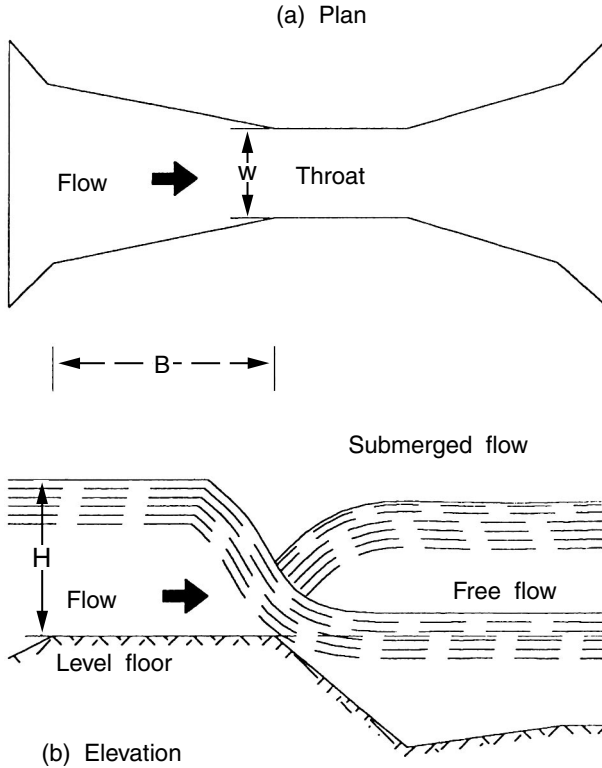

FIGURE P-1 Parshall flume.
**Parshall flume** A calibrated device developed by R. L. Parshall for the measurement of small open-channel flows. It consists of a converging section, a throat with a sill (creating critical flow conditions), and a diverging (or expanding) section. *See* Figure P-1. The discharge  $Q$  is determined as a function of the throat width  $W$  and the upstream water depth  $H$  (Simon and Korom, 1997):